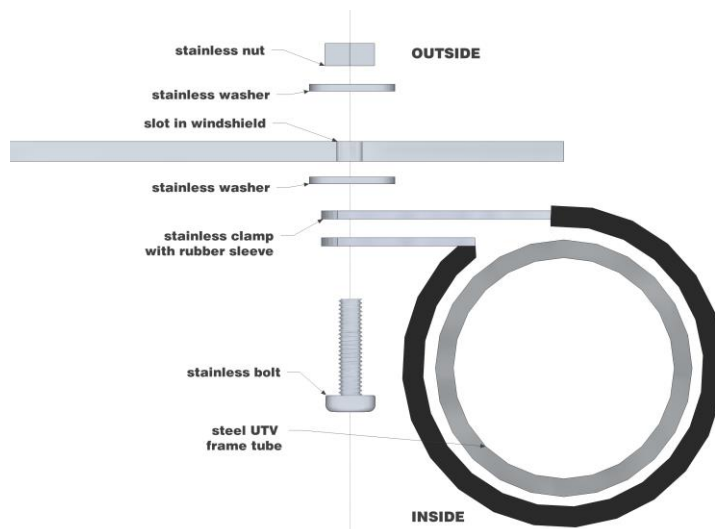

Fig. 3
5. Refer to figs. 3 and 4 for information on how to install the lower windshield holding clamps, and for clarity on how to raise and lower the folding part of the windshield. The lowermost slot on the *upper* windshield will be unique; install hardware at this location according to fig.3.